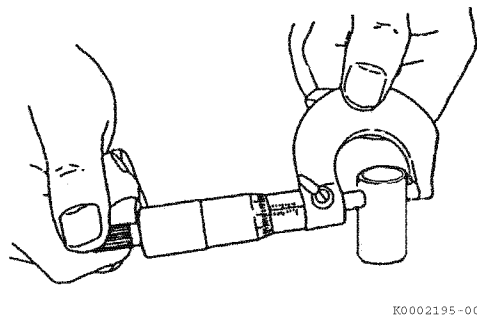

Figure 6-70
2. Measure the outside diameter of the tappet stem (**Figure 6-70**). Record the measurements. *See Tappet on page 6-9 for the service limit.*